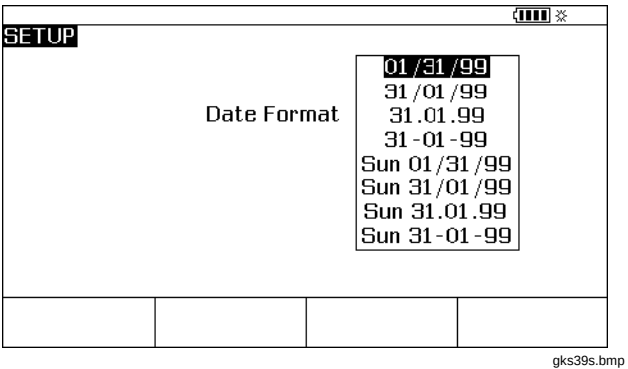

Figure 10. Edit the Date Format
- For example, the display in Figure 10 is shown after you select **Date Format**.